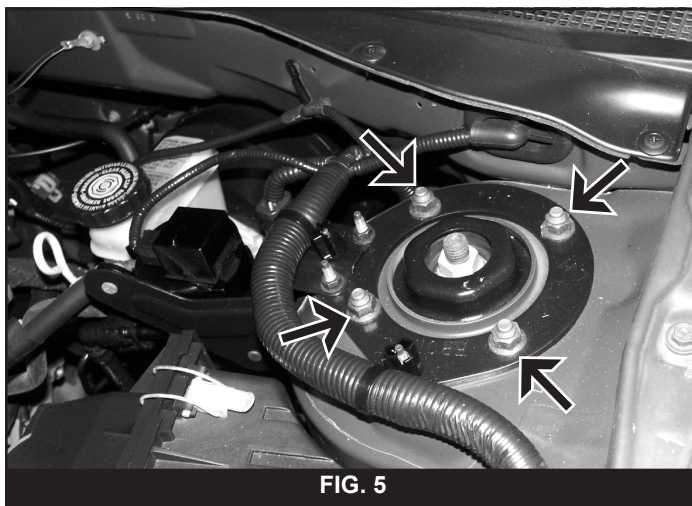

FIG. 5
9. From inside the engine compartment, remove the four upper strut mounting nuts (Fig 5). Lower the floor jack and remove the strut assembly from the vehicle. **Note: Do not loosen the large strut rod nut at this time.** Take care not to over extend the CV half shafts.